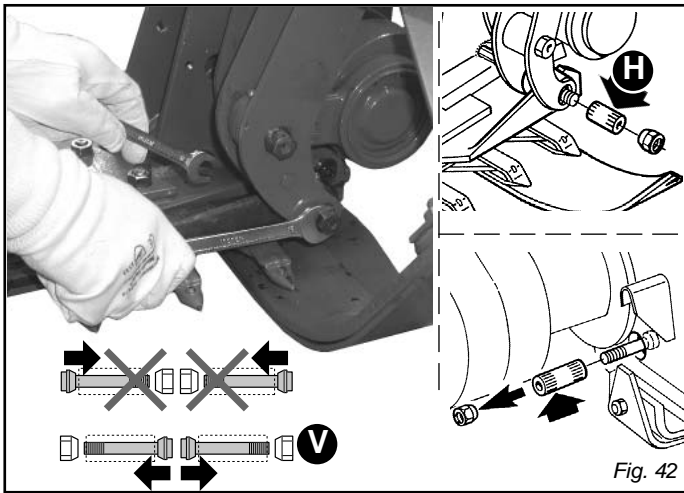
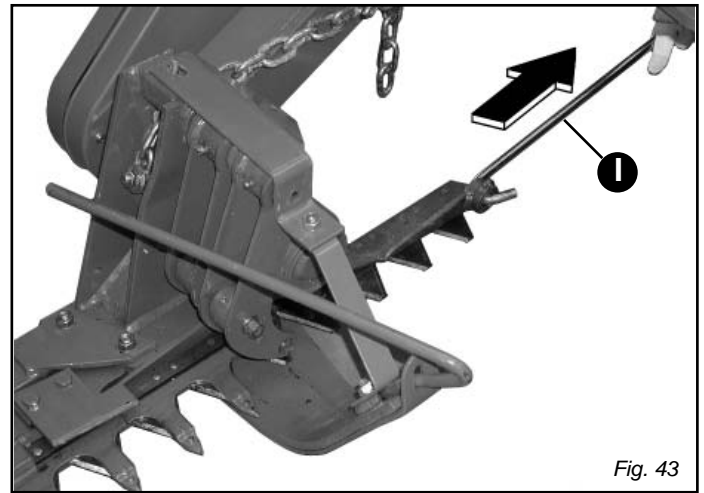

Fig. 42
Fig. 43
The expansion pins must be reassembled as shown in Figure 42 (V), by tightening the screw and the conical nut with a torque not exceeding 30 Nm.
- Remove the expansion pin (H, Fig. 42) and pull out the section-holding bar (Fig. 43) with the hooking tie rod (I, Fig. 43).
- Remove the expansion pin (H, Fig. 42) and slide out the section-holding bar (Fig. 43).